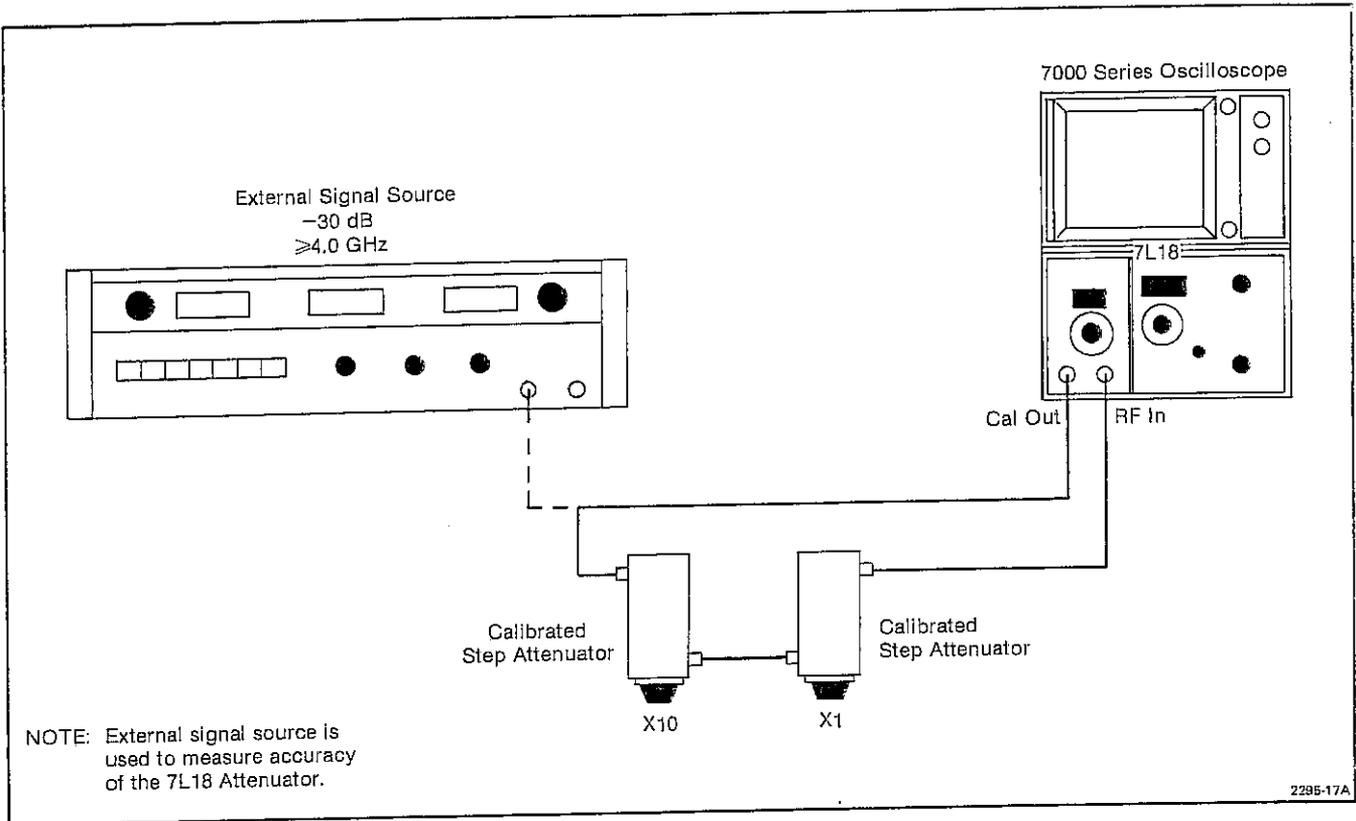

Fig. 4-3. Display Mode Test Setup.
1. Connect the test setup as shown in Fig. 4-3. Set the front panel controls as follows: